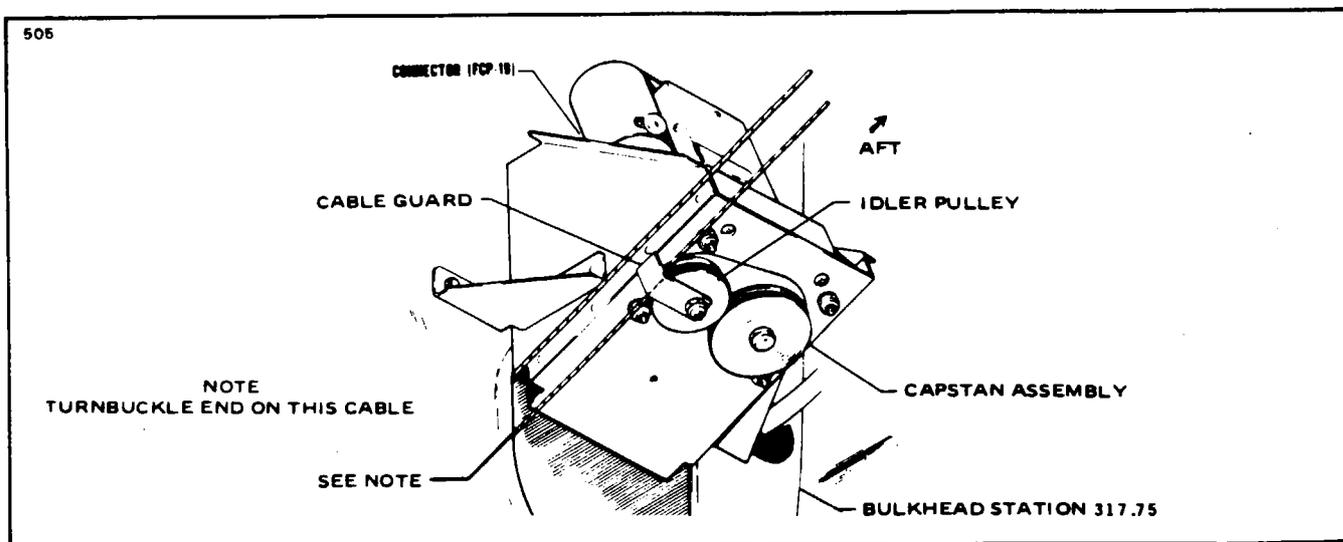

Figure 27-22. Cable Routing on Elevator Trim Servo
*If the autopilot is installed check to determine that the trim cable is properly wrapped around the capstan of the elevator trim servo located on the aft side of bulkhead station 317.75. Route the inboard trim cable (side with turnbuckle) from the forward part of the airplane around the bottom groove of the idler pulley, to the capstan and around the top groove of the idler pulley to the aft section of the airplane, completing a figure eight. (Refer to Figure 27-22.)*